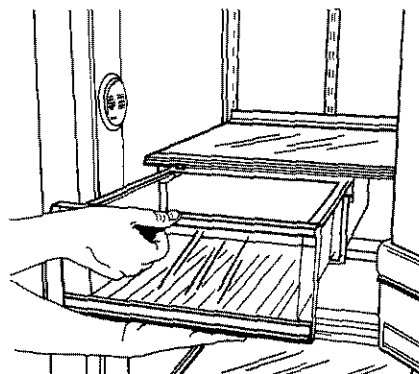

FIGURE 56
2. Lift up slightly to release notches in the grooves. See Figure 56.